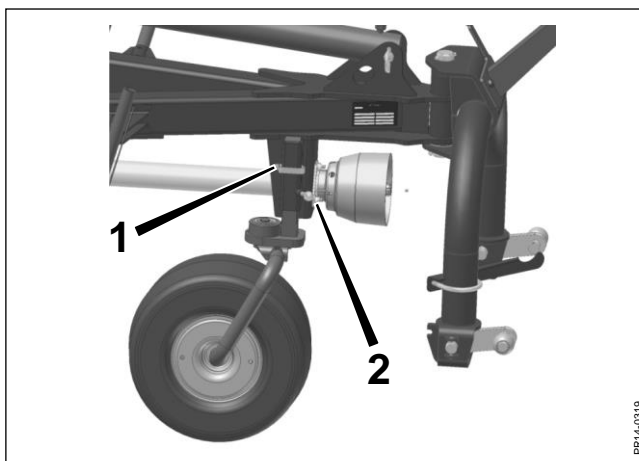

Fig. 3-6
Fig. 3-6 The support wheel is mounted on the plate above the left hitch pin. The desired height is adjusted with the spring pin (1) and fixed with the ring screw (2) to avoid vibrating.